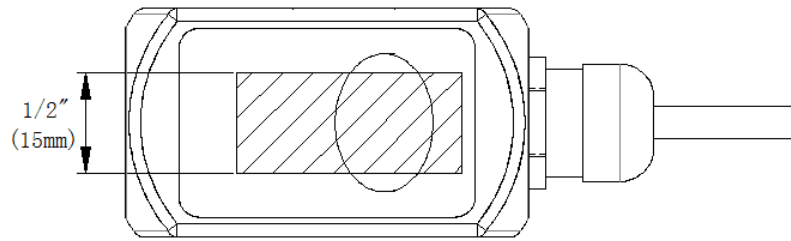

Figure 2.2
5. Place a single bead of couplant, approximately 1.2 mm thick, on the flat face of the transducer. See **Figure 2.2**. Generally, a silicone-based grease is used as an acoustic couplant, but any grease-like substance that is rated to not “flow” at the temperature that the pipe may operate at, will be acceptable.